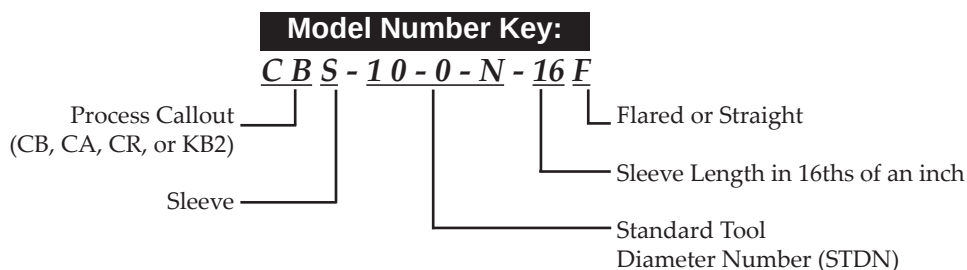

**Figure 2.4-1A
* For flared sleeves, the effective length is from the bottom of the flare to the end of the sleeve (refer to Figure 2.4-1A).